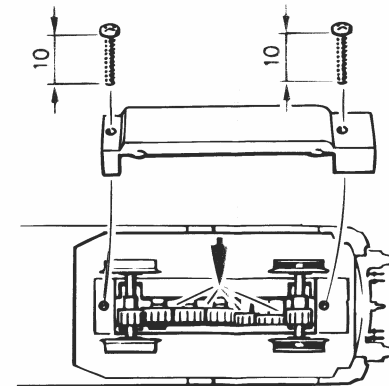

Fig. 5
**4. Change of traction tyre:** Remove **gear cover** (fig. 5). Take out **wheel set** and remove **traction tyre** using a pin or a fine screwdriver (fig. 8). When pressing on the new traction tyre please **avoid twisting** it.